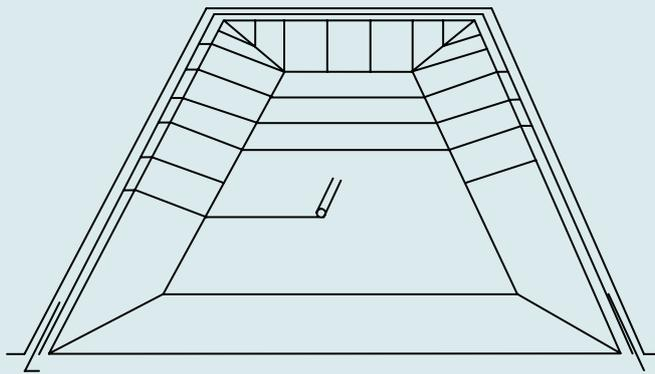
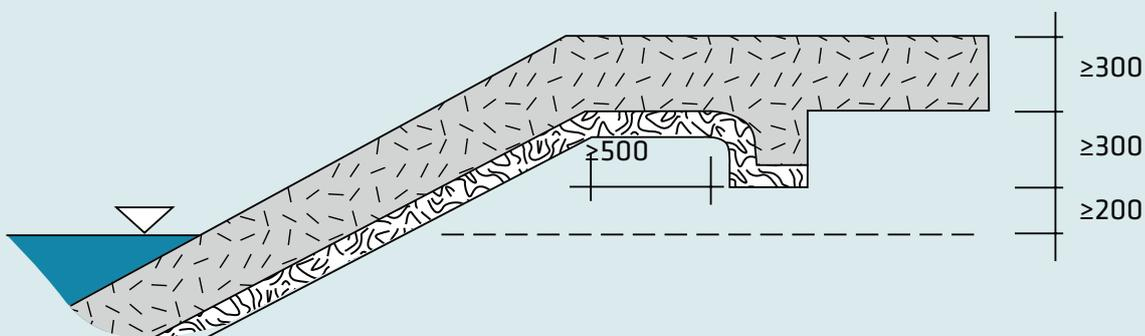

Figure 8 Recommended panel layout for sloping sites
Figure 9 Typical anchor trench (all dimensions shown are typical values only)
ELCOSEAL panels should be deployed in the direction of the slope as per Figure 8 and anchored at the crest of the slope (Figure 9). End (or transverse) overlaps on steep slopes should be avoided. If overlaps on slopes are unavoidable, please consult your local Geofabrics branch for information on custom extra-long GCL rolls.
- An anchor trench should be used at the top of slopes steeper than 7H: 1V. (see Figure 9 for a typical anchor trench detail);